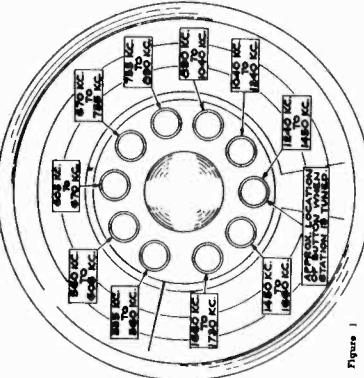

Figure 1
Shown in Fig. 1 is the approximate frequency range that each button will cover. Note: If 2 stations happen to fall within the range of one button, one station will necessarily have to be tuned in with the selector knob.
- Now select the proper button for the first station chosen by referring to Fig. 1 and noting the button into whose range the station falls. For example, station WGN with a frequency of 720 KC comes under the button whose frequency ranges from 670 to 733 KC. Usually the button nearest the tuning point or the bottom of the dial will be the proper button.